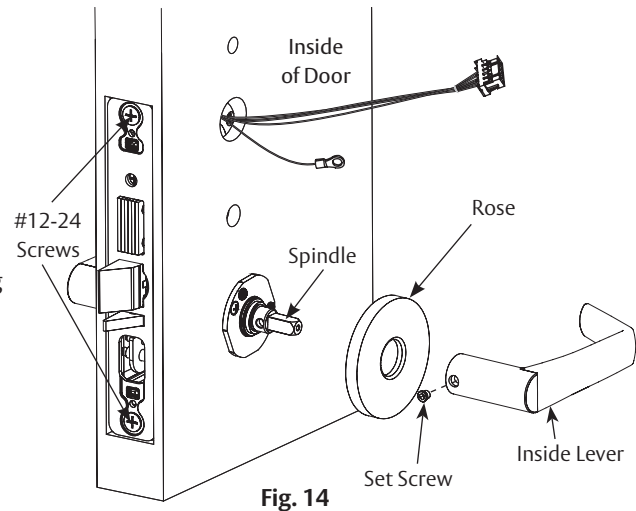

Fig. 14
9. Install inside rose and inside lever assembly. (Figure 14)
- d. Finish securely tightening two (2) #12-24 lockbody screws.